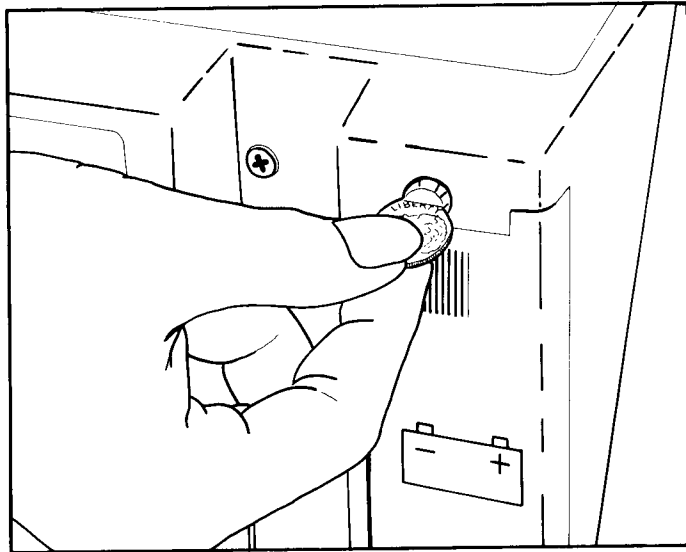

Figure 6-1. Loosen the Battery Door Hold-Down Screws
1. Ensure that AC power is removed from the monitor either by removing the power cord or placing the AC power switch on the rear of the unit to the OFF (O) position.
2. Using a dime, or similar tool, loosen the battery door hold-down screws as shown in Figure 6-1. Turn each screw counterclockwise at least one-half turn. Do **not** attempt to remove screws.